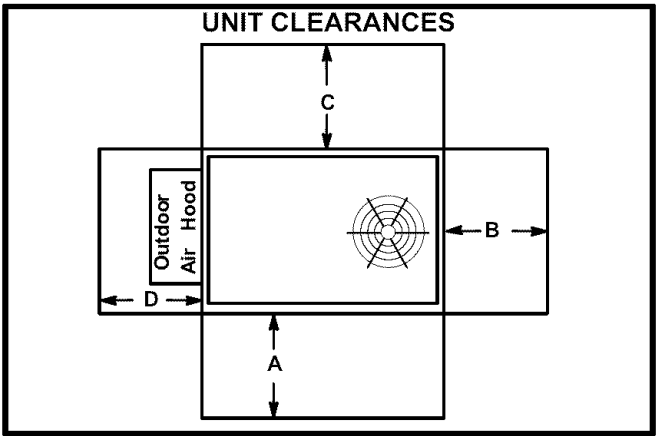

FIGURE 1
The THA unit is ETL/CSA certified as a heat pump with cooling and with or without auxiliary electric heat for non-residential use only at the clearances to combustible materials as listed on the unit nameplate and in figure 1.
- 2- Specified installation clearances must be maintained when installing units. Refer to figure 1.